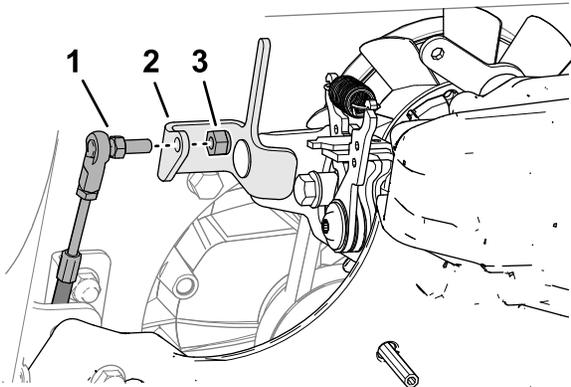

Figure 50
1. Remove the locknut (1/4 inch) that secures the fitting of the traction-control cable to the transaxle-control bracket, and separate the cable from the bracket (Figure 50).